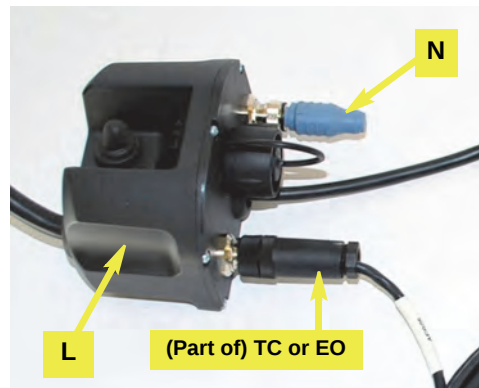

Figure 8d: CAN harness and terminator connected to junction box
- e. Connect the threaded 5-pin connector on the CAN bus harness **TC** (eDriveTC) or **EO** (eDriveX) to either of the threaded connectors on the junction box **L**. Connect the CAN bus terminator **N** to the other threaded connector on the junction box (Figure 8d).